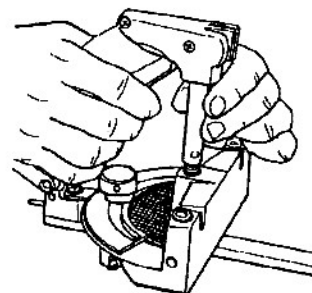

Fig. 60
69. Fit the safety grip on the miter gauge and with your fingers, start the post into the top of the miter gauge, as shown in Fig. 60.